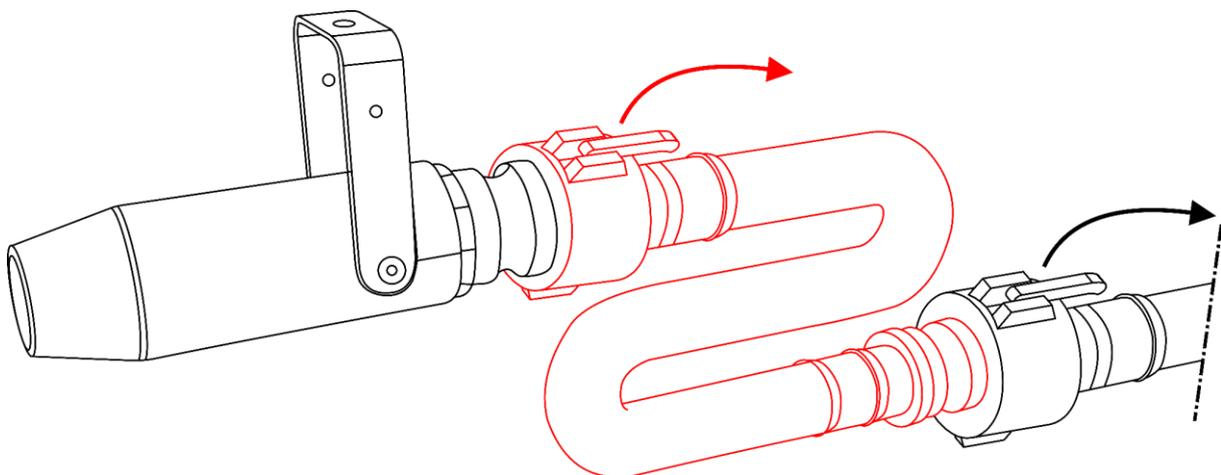

Fig. 10
- 05) Connect the output nozzle **(09)** to the ST-10 extension hose and secure the safety locks. Connect the other end of the ST-10 extension hose to the output hose **(08)** and secure the safety locks. See Fig. 10.